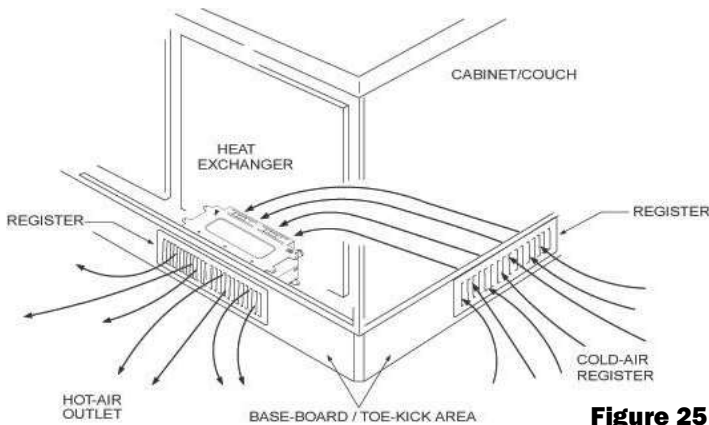

Figure 25
1. Cut out a 2.5" H x 10" W (7cm x 26cm) opening for each heat exchanger outlet and cold-air return grate as shown in Figure 25.